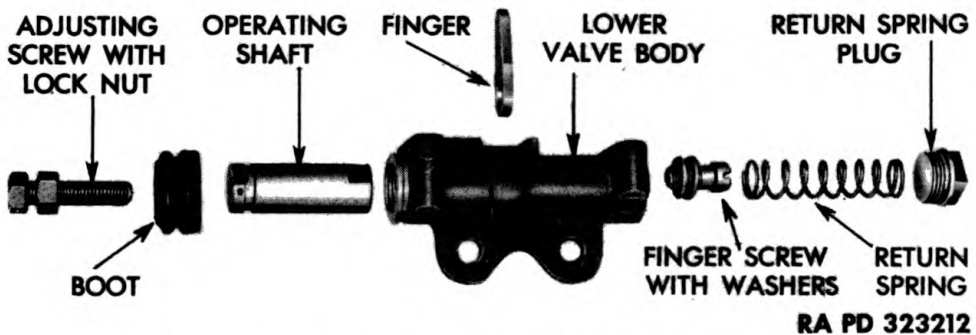

Figure 218 — Lower Valve Body Disassembled
(3) **DISASSEMBLE LOWER VALVE BODY UNIT** (fig. 218). Clamp valve body in a vise. Remove return spring plug and return spring. Loosen lock nut and remove cap screw from operating shaft. Remove rubber boot from lower valve body and operating shaft. Remove finger screw, flat washer, and lock washer attaching finger to operating shaft. Remove finger, and pull operating shaft from lower valve body.
(6) **ASSEMBLE LOWER VALVE BODY UNIT** (fig. 218). Turn adjusting screw and lock nut into end of operating shaft nearest boot recess. *NOTE: Do not tighten lock nut, as adjusting screw will have to be adjusted later.* Insert shaft into unthreaded end of lower body with adjusting screw end out. Insert finger screw with flat washer and lock washer in hole in finger, and set finger in position against end of operating shaft. Install finger screw to securely attach finger to shaft. Insert return spring into threaded end of lower body. Then screw in return spring plug with gasket and tighten. Install boot over operating shaft and lower valve body.